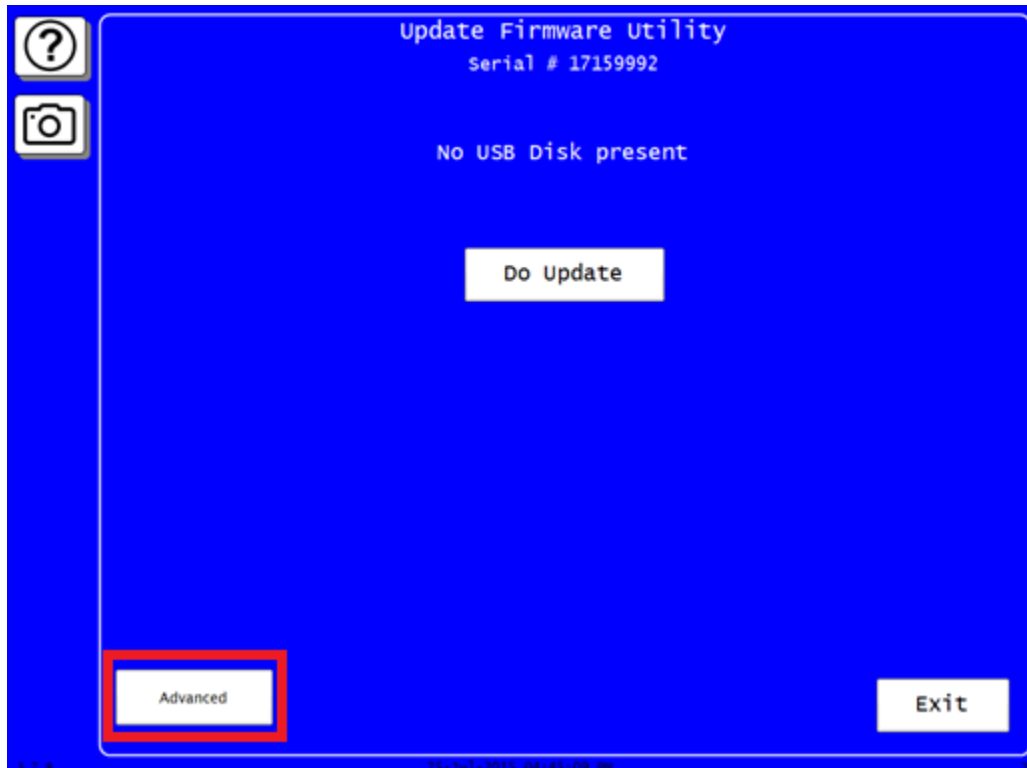

Figure 3
17. After pressing the OK button in step 16, select Advanced in Figure 3 below.